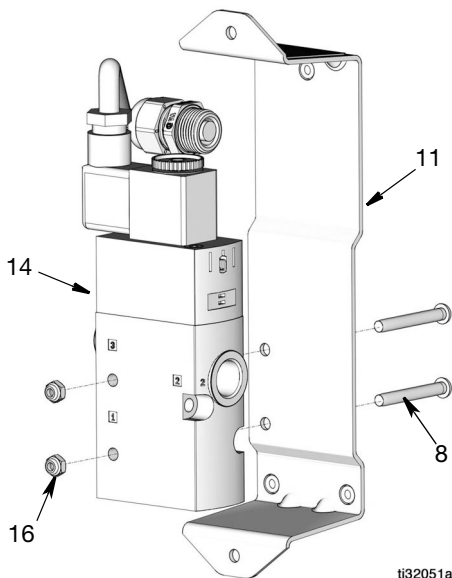

FIG. 3
4. Remove two screws (8) and nuts (16) holding solenoid valve (14) to bracket (11) and remove solenoid valve from bracket (FIG. 3).